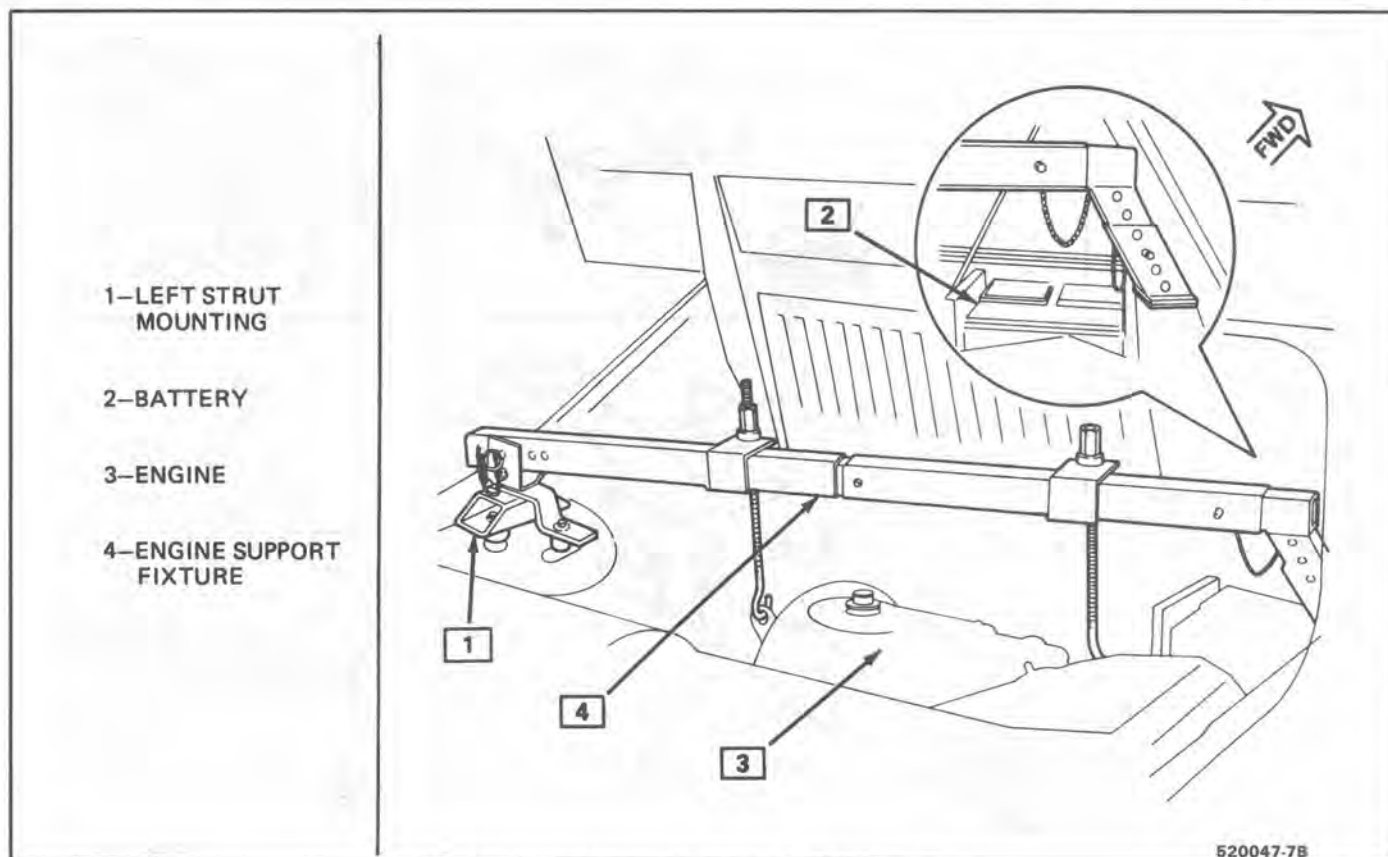

Fig. 5 Engine Support Fixture J-28467 Installed
**MANUAL TRANSAXLE****↔ Remove or Disconnect****Figure 5****Tools required:**